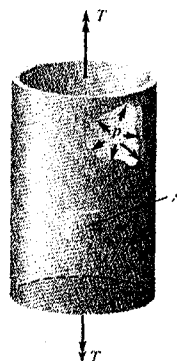

Figure 6
6. A section of pressurized steel pipe experiences a twisting moment  $T$  as shown in Figure 6. If  $T = 100 \text{ kip-in}$ , determine the largest  $p$  that the pipe can sustain before point  $A$  yields (use any criterion you like). The outside diameter of the pipe is 12 in, and the wall thickness is 0.125 in. (15%)